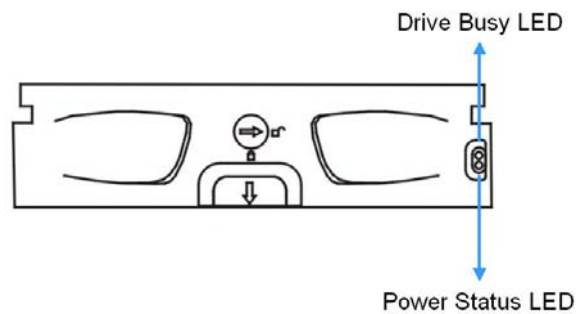

Figure 3-1: Drive Tray LEDs
Two (2) LED indicators are located on the right side of each drive tray. (See *Figure 3-1*) Refer to *Table 3-2* for the LED definitions. When notified by a drive failure message, you should check the drive tray indicators to find the correct location of the failed drive. Replacing the wrong drive can fail two members of a logical array (RAID 3/5) and thus destroy data in the array.